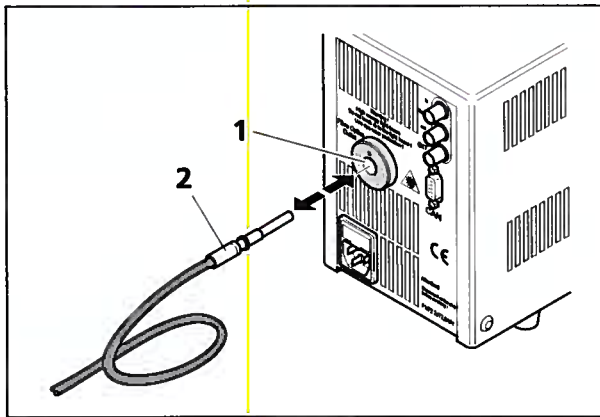

Fig. 6-4 Connect optical fiber (HXP 120 V)
- Insert the longer coupling piece (Fig. 6-4/2) into the HXP 120 V (Fig. 6-4/1), until you feel the metal end click into place.